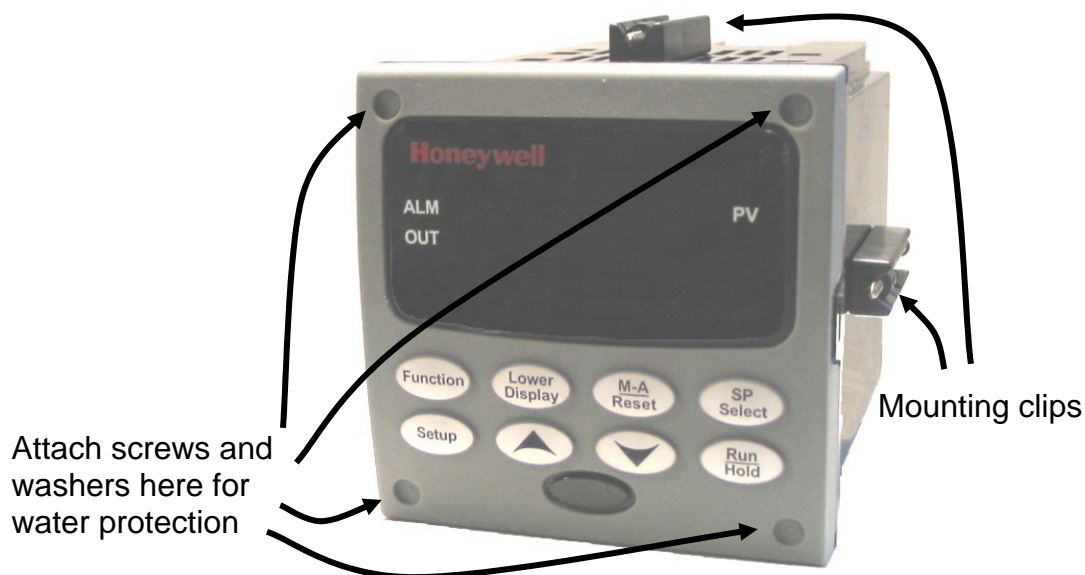

Figure 2-3 Mounting Methods
- The front panel is moisture rated NEMA3 and IP55 rated and can be easily upgraded to NEMA4X and IP66. See Figure 2-3 and Table 2-4 Mounting Procedure.
4	For water-protected installation (NEMA 4/IP66), install four screws with washers into the four recessed areas in the corners of the front bezel (Figure 2-3). Push the point of the screw through the center piercing the elastomeric material and then tighten screws to 5 lb-in (56 N•cm).